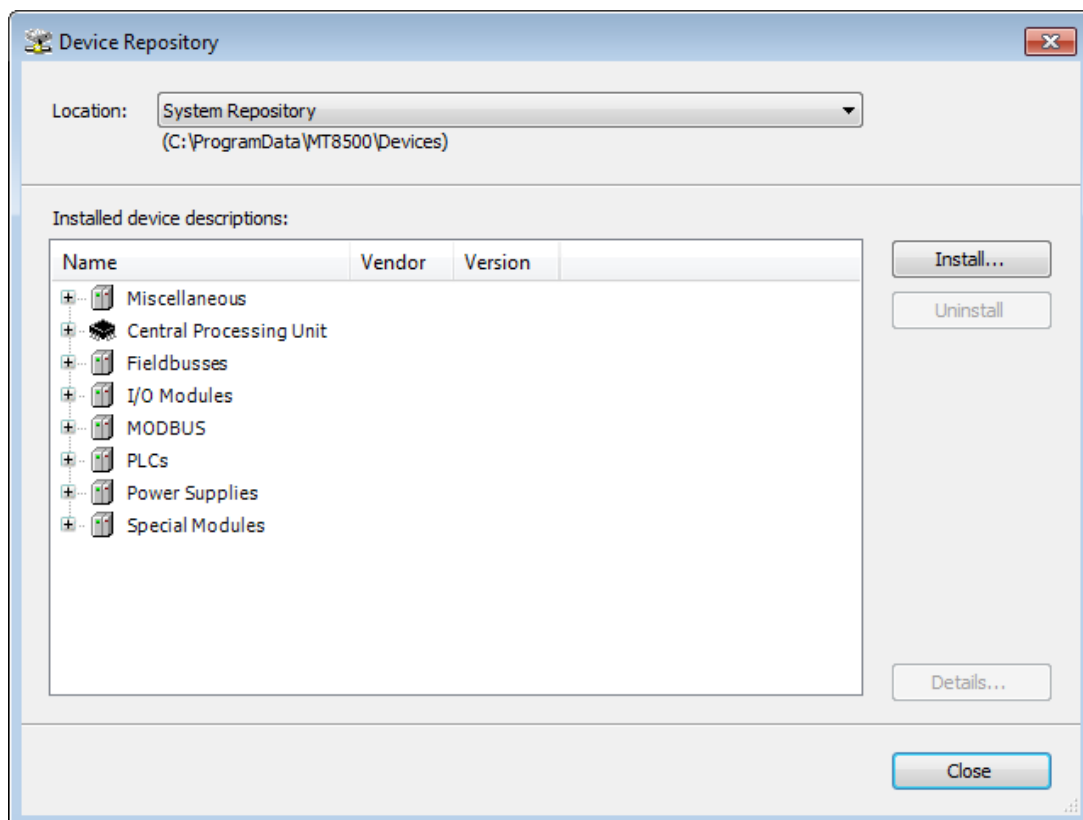

Figure 7-125. Device Repository
- *Installed device descriptions*: The currently installed devices are listed in a tree structure, each showing the Name, Vendor name and Version of the device. The devices tree may be structured by categories like for example “PLCs” and “Miscellaneous” (Figure 7-125). If applicable open or close the tree entries via the plus and minus buttons.